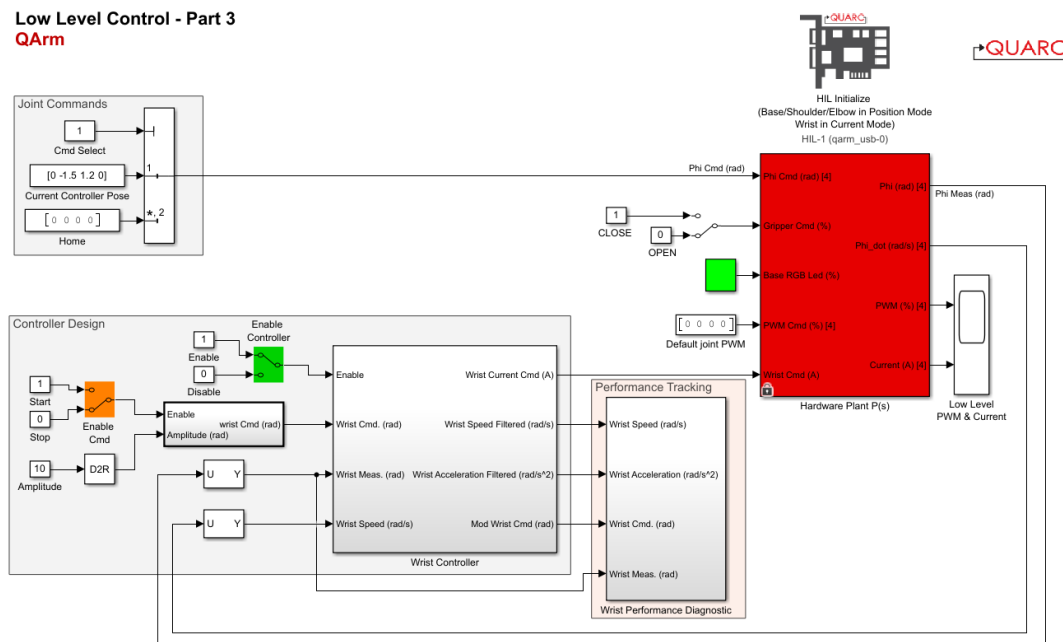

Figure 9: Simulink model that controls the QArm in hybrid Position/Current Mode
4. Open the Simulink model LowLevelControlWristCurrent.slx (Figure 9). In this part of the lab, you will study the performance of the wrist current controller. Primarily you will focus on increasing the amplitude of the wrist angle to study how the controller performs as the range of motion for the wrist increases.